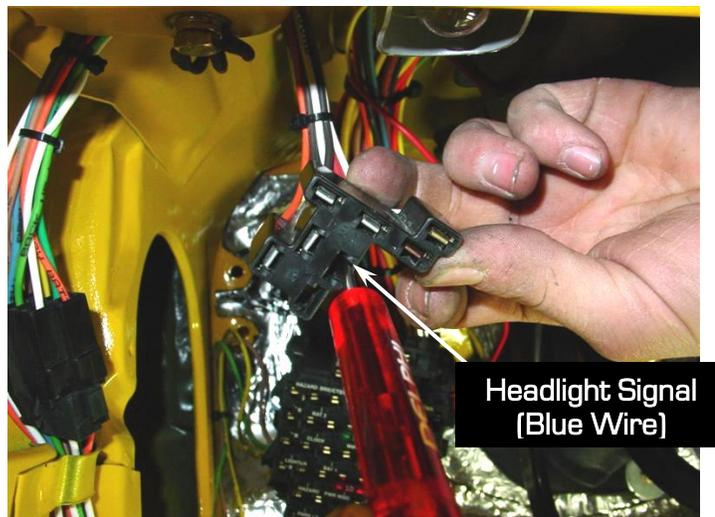

Figure 7 - Locating the Blue Wire
3. Remove the connector from the headlight switch. Locate and mark the blue wire (Figure 7). Remove the terminal from the connector using a terminal removal tool or a small flat blade screwdriver. The blue wire is the 12 volt headlamp feed.